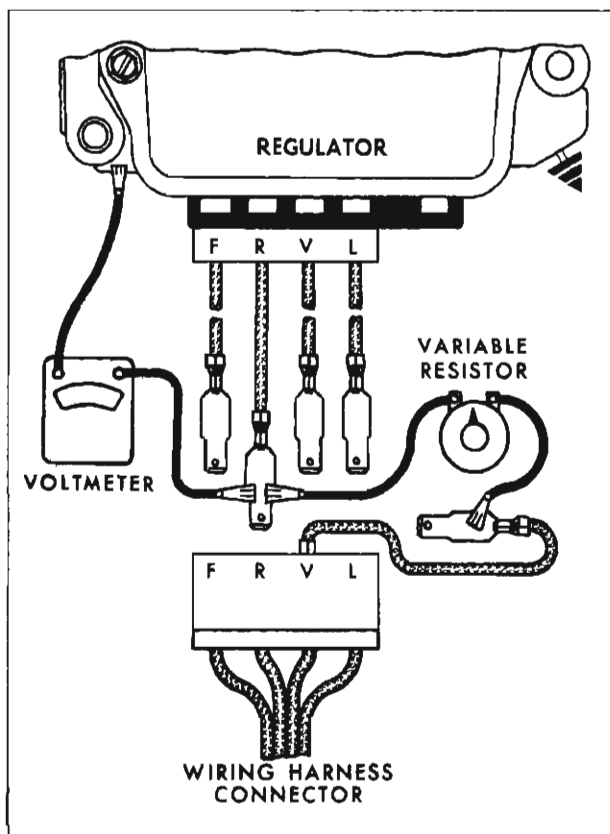

Fig. 18—Checking Field Relay Closing Voltage
1. Make connections as shown in Figure 18 using a 50 ohm variable resistor.